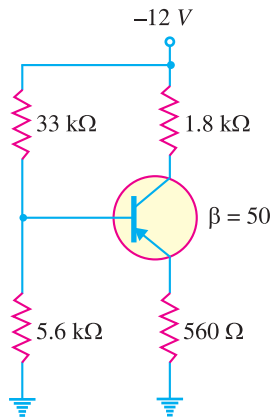

Fig. 9.57
16. (i) Determine the base voltage V_B in Fig. 9.57.
17. (i) Find the Q-point values for Fig. 9.57.
(ii) Find the minimum power rating of transistor in Fig. 9.57. [(i) 1.41 mA ; - 8.67V (ii) 12.2 mW]